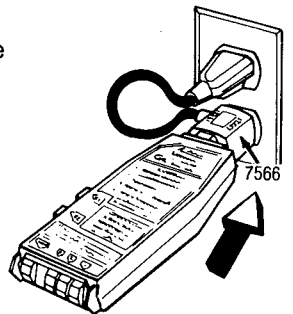

Figure 42
- Step 3. Plug the other end of the 7566 Probe into a duplex outlet (Fig. 42).
- Step 4. Plug the instrument and 7566 Probe into the second outlet of the duplex receptacle (Fig. 42).